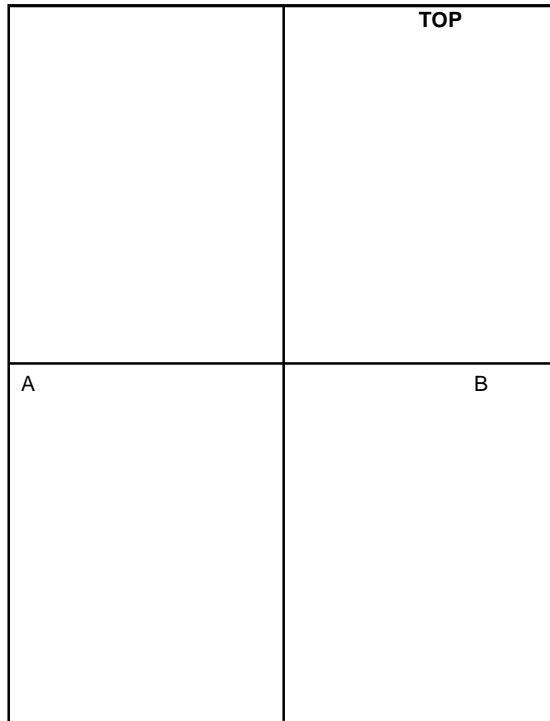

Figure 1 Creating a Test Pattern Original
1. To create a Cross Line Test Pattern, use a plain white sheet of 8.5x11"/A4 paper and fold the sheet precisely in half lengthwise and width wise. Then with a straight edge draw a straight line in the lengthwise crease and a straight line in the width wise crease. Label the top for orientation purposes. (Figure 1)
- Fold the copy in half parallel to the short edge (Fold A to B line in Figure 1).